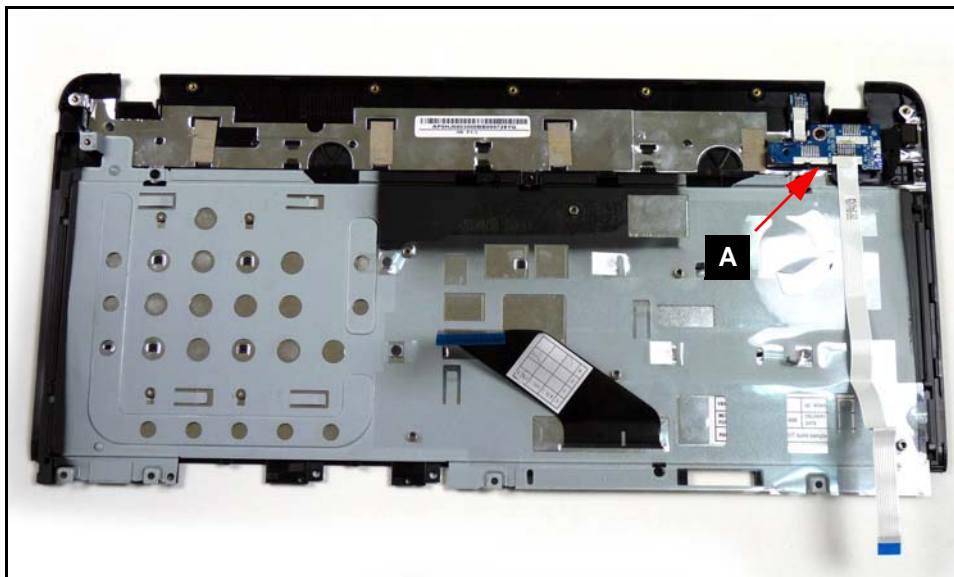

Figure 3-37. Upper Cover Overview with Power Board
1. Locate power board (A) on upper cover. (Figure 3-37)
1. Install power board (A) on upper cover. (Figure 3-37)